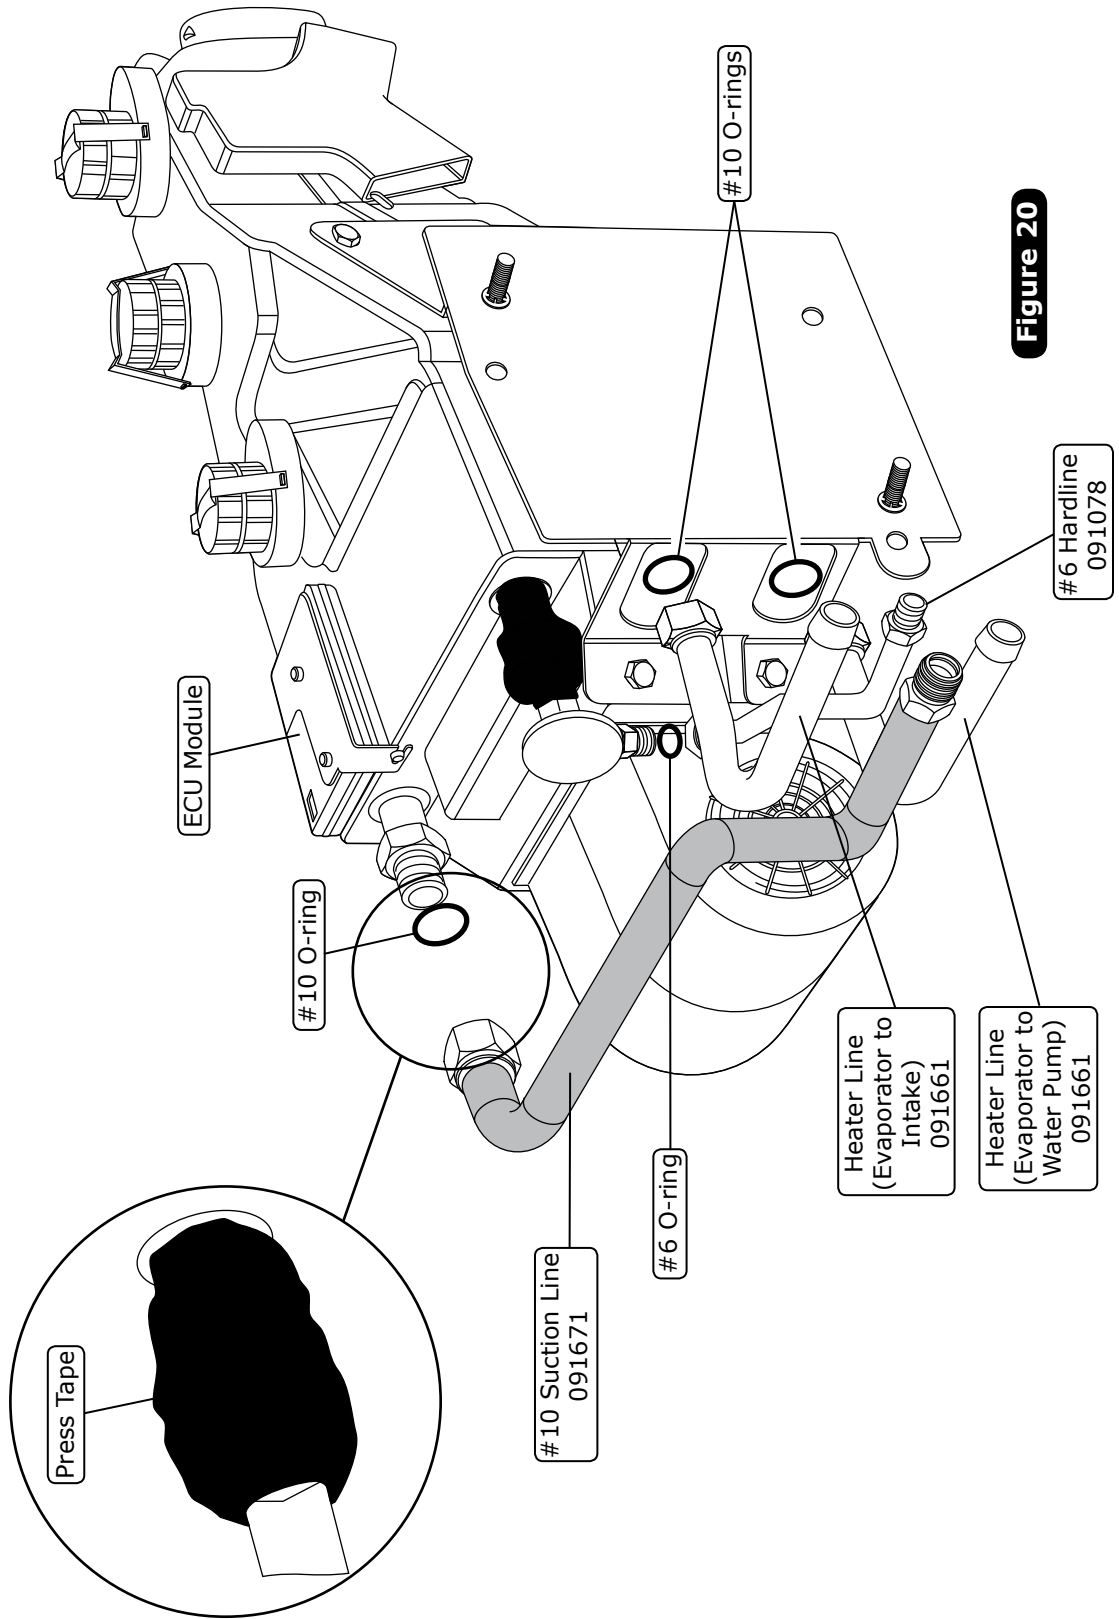

**Figure 19**
1. Install the duct hoses as shown in Figure 19, Page 18.
4. Plug the wiring harnesses into the ECU module on the sub case as shown in Figure 19, Page 18. Wire according to the wiring diagrams on Pages 20 & 21.